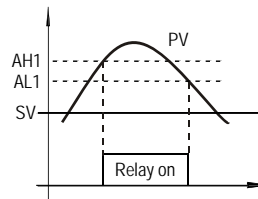
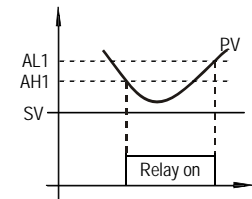

Figure 6. Absolute high alarm
Figure 7. Absolute low alarm
Note 13. Alarm setting. When the SSR is used as the control output, the J1 relay can be used as an alarm (when outy is set to 0, 2, 3, or 6). The controller offers two alarm settings for the J1 relay. One is controlled by parameters AH1 and AL1, and the other is controlled by AH2 and AL2. AH1 and AH2 are the temperatures to turn the J1 relay on; AL1 and AL2 are the temperatures to turn the J1 relay off. When AH1(2) > AL1(2), the alarm is set for absolute high alarm as shown in Figure 6 below. When AH1 (2) < AL1(2), the alarm is set for absolute low alarm as shown in Figure 7 below. Users can press **⊖** key to temporarily turn off the alarm. The alarm will be on again if the alarm set temperature is reached again. To permanently deactivate the alarm, set AH1=AL1 or AH2=AL2.